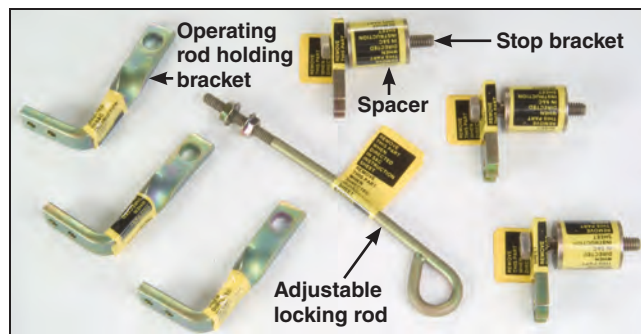

Figure 26. Check the transition box and high-speed base for these shipping parts.
- The operating rod holding bracket, stop bracket, and spacer have been removed from the interrupter (see Figure 26)